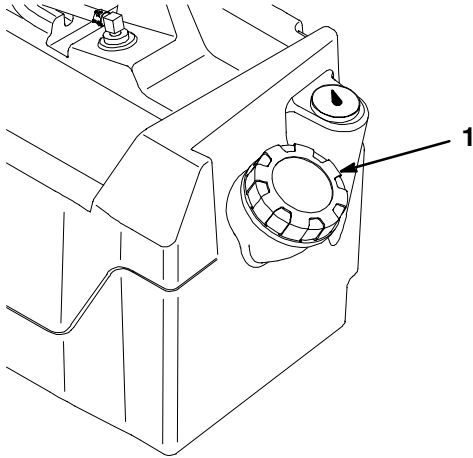

Figure 11
2. Clean area around fuel tank cap (Fig. 11).